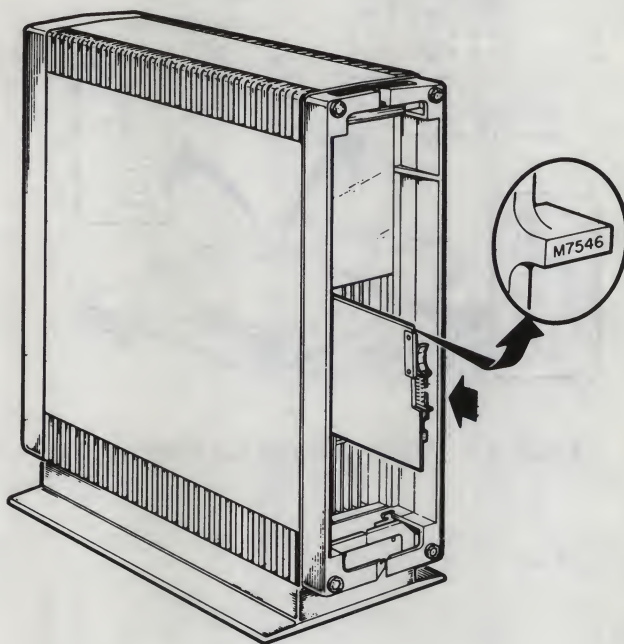

Figure 1-9 Install the TK50 Controller Module (M7546)
- Install the module in rows A/B or C/D. A grant continuity card (G7272 or M9047) or any other dual-height module must be installed in the unoccupied row (Figure 1-9).